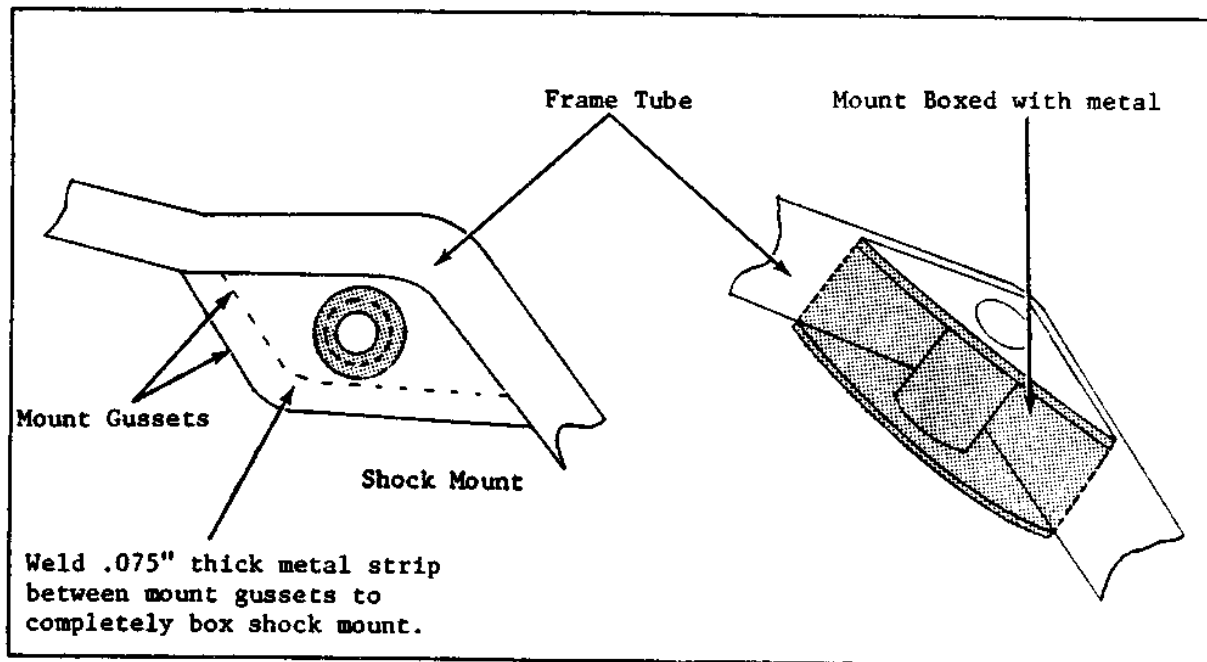

Figure 2.
1. To improve the reliability of the shock mounts, the mount gussets should be reinforced by welding a .075" thick strip of metal between the mount gussets as shown in Figure 2 so the mounts are completely boxed with metal.